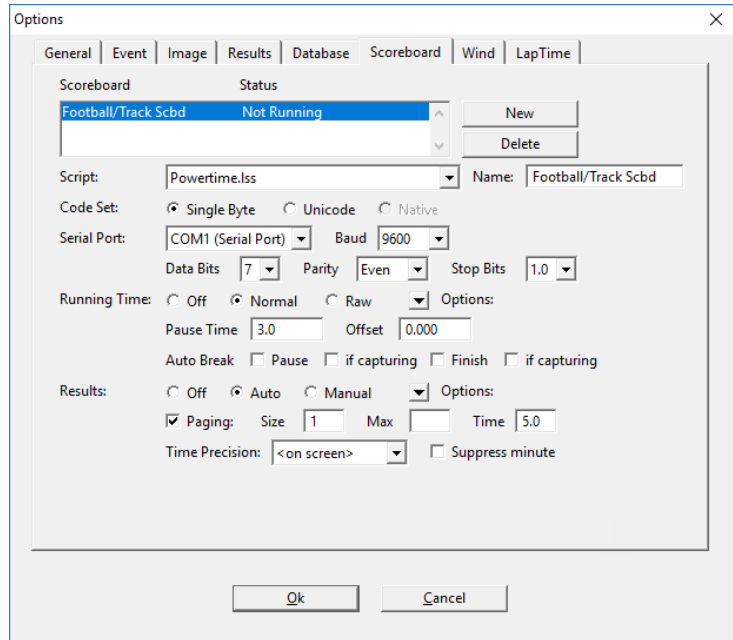

Figure 8: FinishLynx Scoreboard Options
4. Set up the options on the FinishLynx computer as follows (refer also to **Figure 8**):